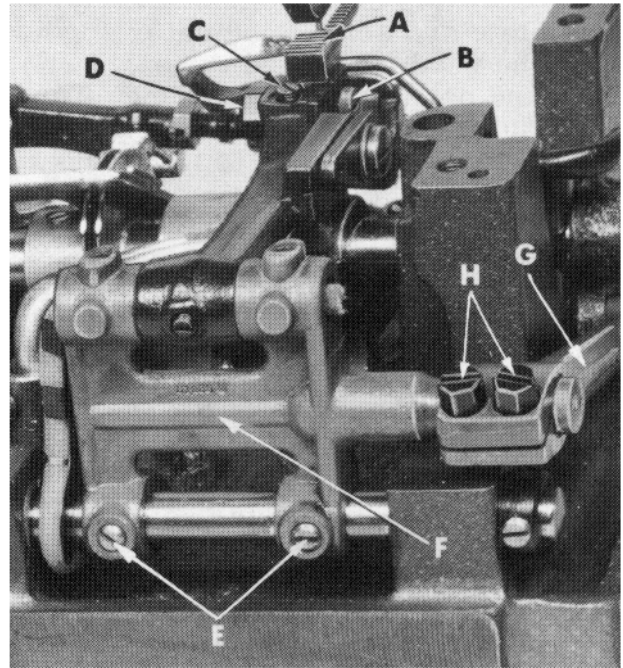
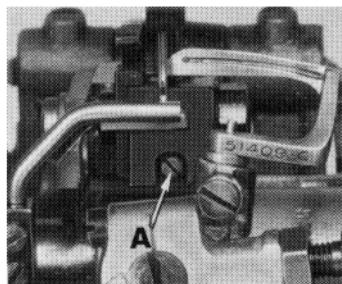

Fig. 4
Fig. 5
Set the feed dog (A, Fig. 4) in the throat plate so there is equal clearance on all sides. See that the tips of the teeth extend $\frac{1}{2}$ to 1 full tooth above the throat plate and are parallel with the throat plate at high point of travel. Height can be set by loosening feed dog attaching screw (B) and adjusting feed dog supporting screw (C). Parallelism can be set by loosening nut (D) and rotating feed dog holder adjusting screw (A, Fig. 5), as required and retighten nut. Side clearance can be set by loosening screws (E, Fig. 4) and moving feed rocker (F) to the right or left, as required.